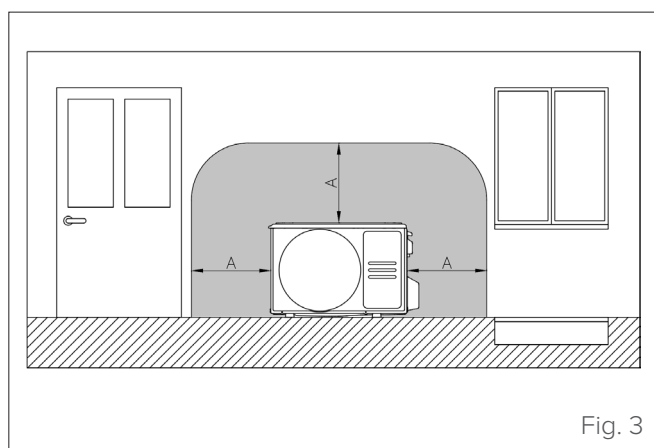

Fig. 3
- the space available for installation must meet the requirements indicated (see "Fig. 3")